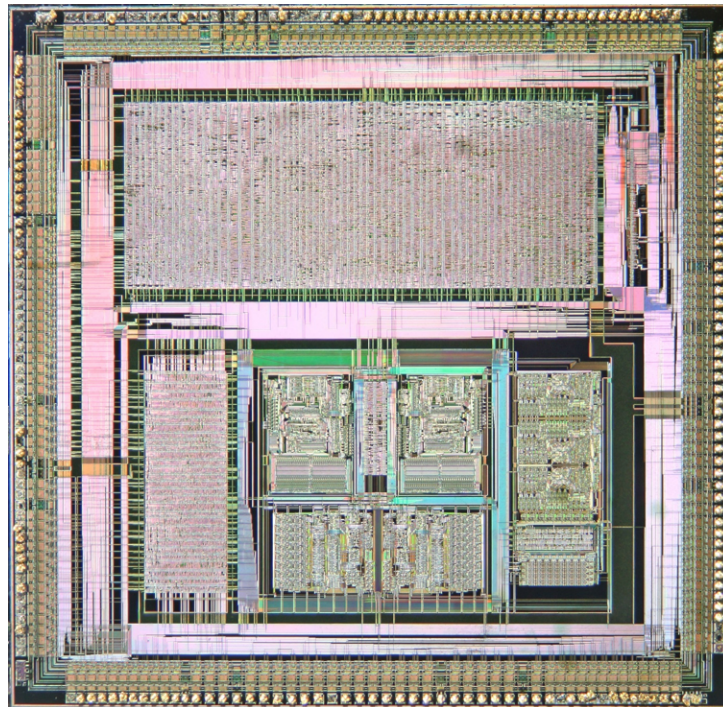

Figure 5: VLSI VL82C486, 1992, $1.0\mu\text{m}$ CMOS [10, 11].
silicon, with a typical size no larger than a fingernail. Figure 5 shows a micrograph of a chip from 1992. We notice a lot of tiny metal wires, interconnected orthogonally.
- **Application-Specific Integrated Circuits** or **ASICs** [11] are specialized circuits, made uniquely for a specific task. They offer highest performance, but have to be custom designed and are very expensive to produce. Examples include anything that isn't standard, from interface controllers to SoCs (System-on-Chips). The VLSI circuit from Figure 5 is an ASIC.